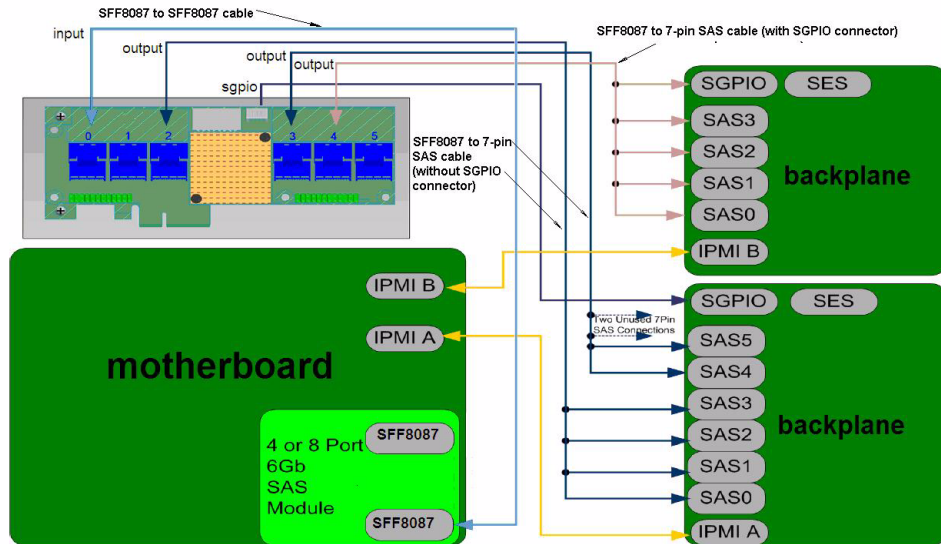

Figure 4. Cabling among the Expander Card, RAID Module/Controller and Drives/Backplane
6. Connect the SAS/SATA cables from the backplane (or hard drives) to the expander card, and from the expander card to a RAID module or RAID controller (see Figure 4, which takes 6-drive and 4-drive non-expander backplanes in Intel's pedestal chassis as an example for cabling). For information regarding connecting the recommended Right-angle end or Vertical end of the SAS/SATA cable to the SAS connectors of the controller, see your server/workstation board or chassis documentation. Make sure the cables are properly connected to the controller.